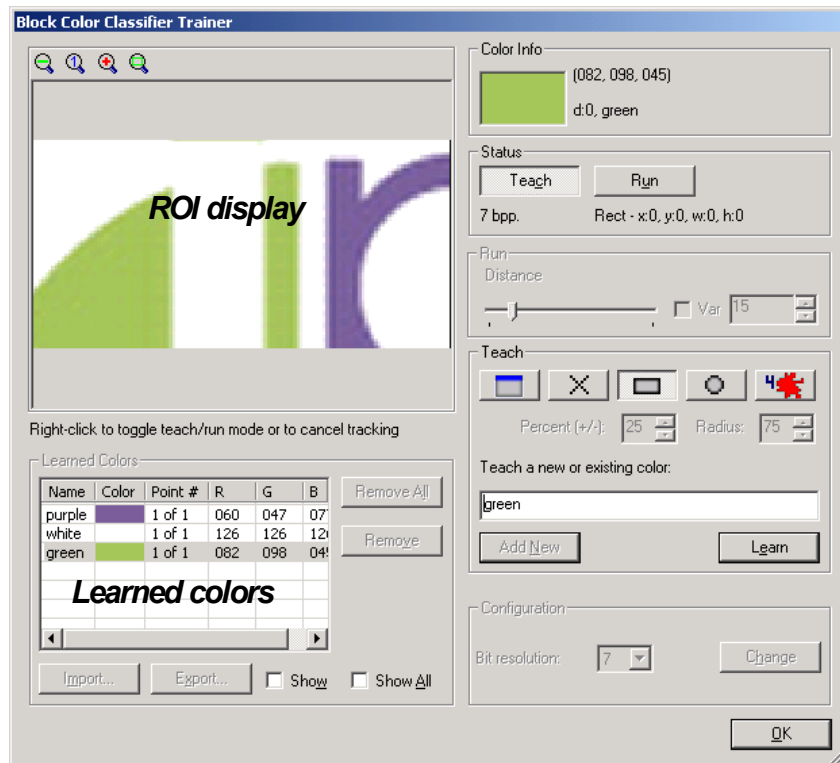

Figure 69. Block Color Classifier Trainer
- The Block Color Classifier (Figure 69) allows multiple color “points” for each label or name, and allows only one distance value for all colors.
7. In the image window, create four ROIs to find the four points. For this example, use four Spoke ROIs to find the edges of the four circles. Click on the "Spoke" button in the Image Window toolbar. Click twice in the center of one of the holes, then click outside the hole. Repeat for the four holes indicated in Figure 69.